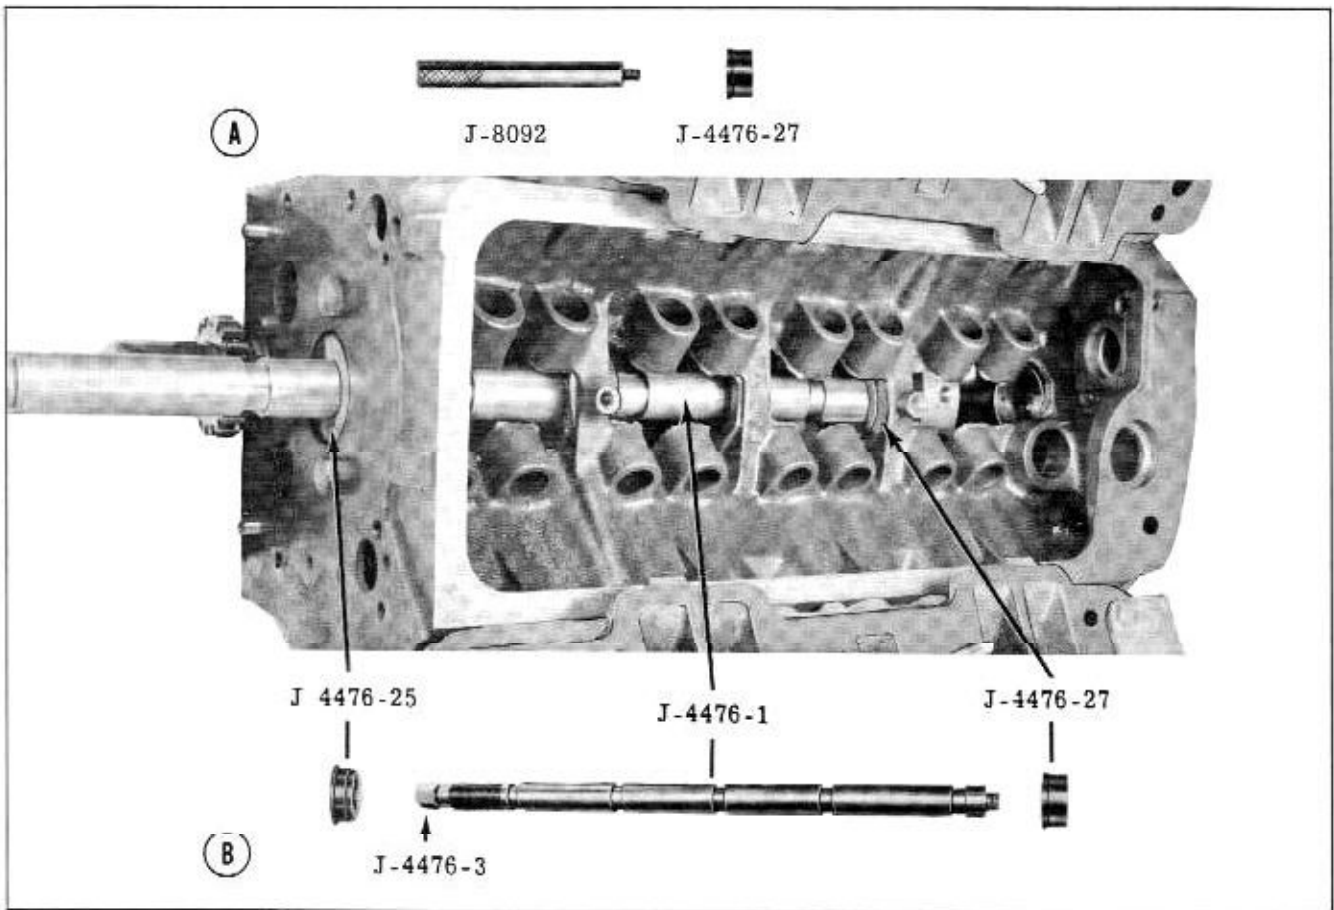

Fig. 8-43 Removing No. 4 Camshaft Bearing (Typical of 1, 2, and 3)
1. Assemble tools as shown in Fig. 8-43 (Inset "A") and remove No. 1 camshaft bearing by driving it rearward. Remove old bearing from J-4476-27 and repeat procedure on No. 2 bearing.
2. Assemble tools as shown in Fig. 8-43 (Inset "B") and remove No. 3 bearing. Remove old bearing from J-4476-27 and repeat procedure on No. 4 bearing.